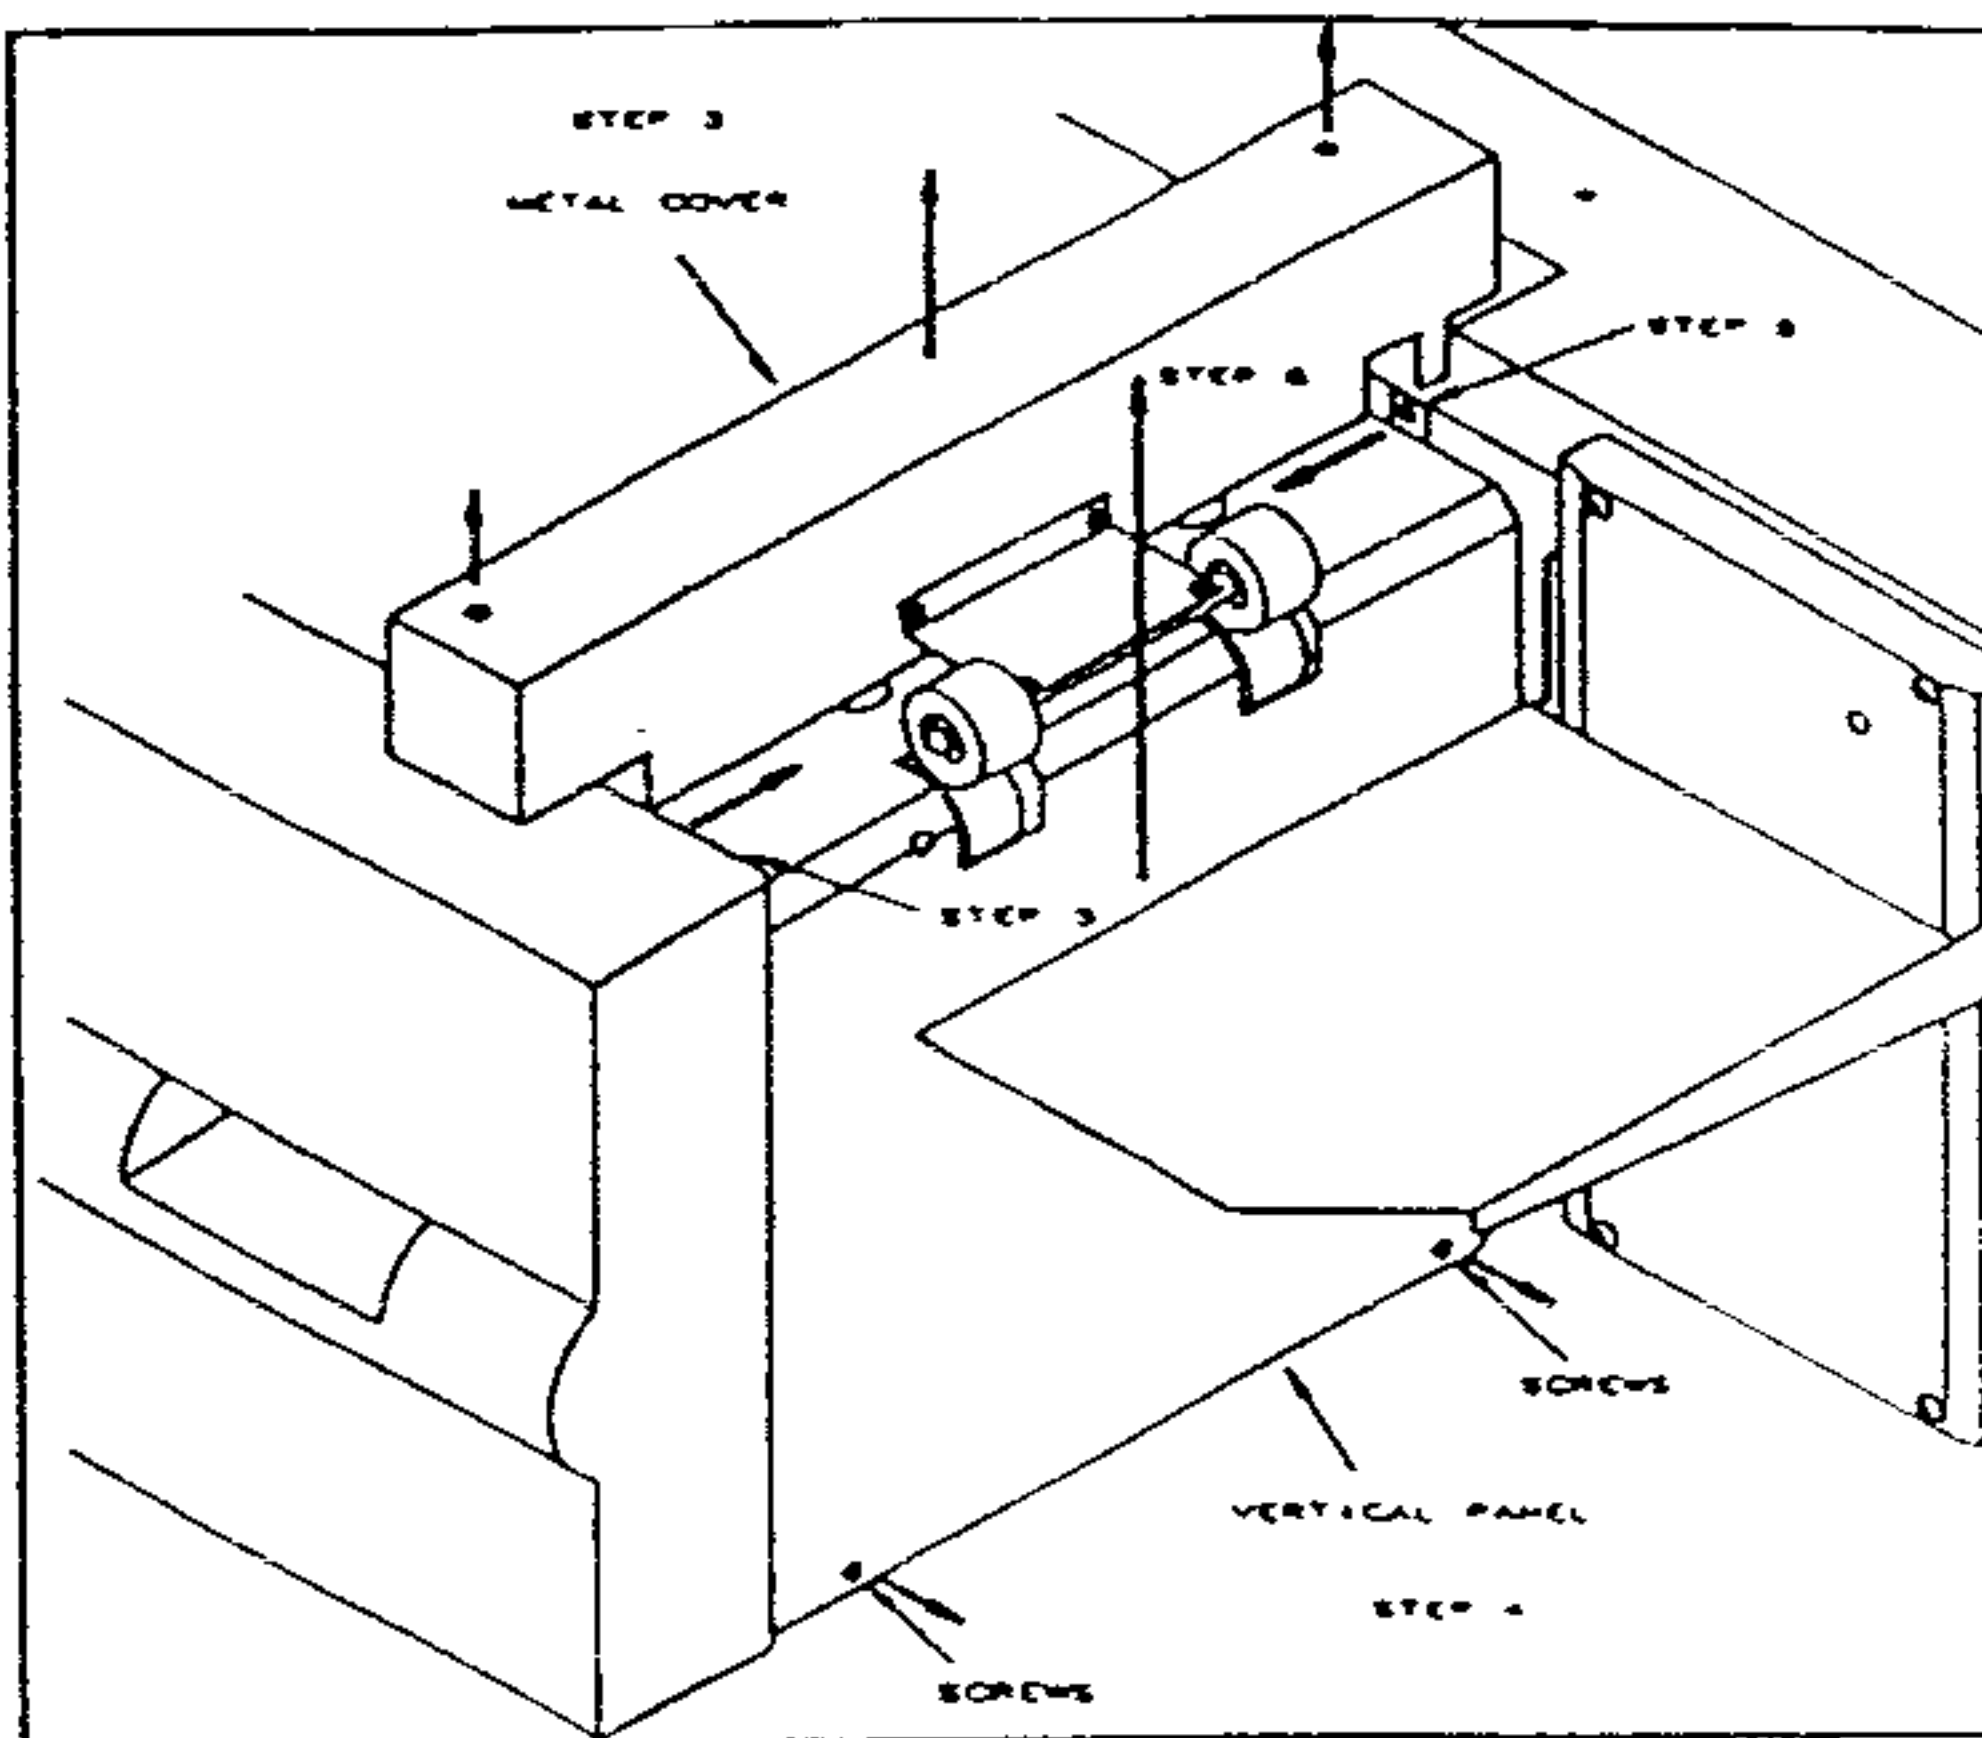

Figure 15
8. If the spacing at the top and bottom of the sheet is not equal, or if the edge of the sheet is nicked by a partial hole adjust the Side Guide slightly. Depending upon the sheet size, you may have to disengage a punch pin to prevent the sheet edge from being nicked. To do so please follow the procedure below. Refer to Figures 15 and 16
## 19 HOLE PLASTIC BINDING PUNCH DIE REMOVAL (Refer to Figures 15 to 18)
3. Remove the two (2) screws holding the metal cover over the punch die, and then remove the metal cover. The upper two (2) exit rollers will remain attached to the metal cover. (See Figure 15)
4. Remove the two (2) screws located at the bottom of the Output Stacker vertical panel. (See Figure 15)
5. Remove the one (1) screw on each side that fastens the vertical panel to the side frame. (See Figure 15)
6. Remove the vertical panel from the AP-1 by raising it upward. (See Figure 15)